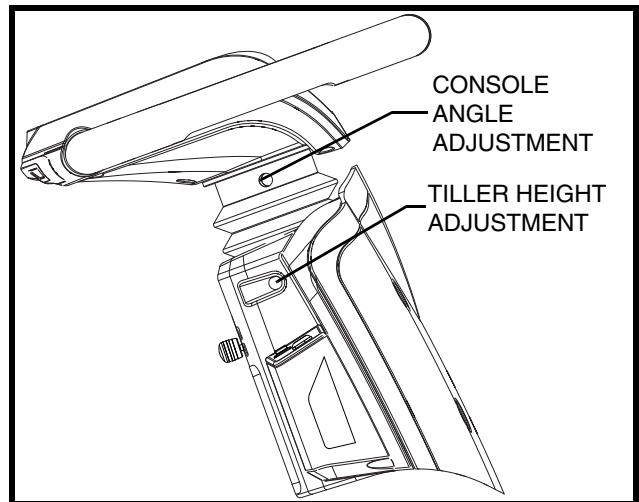

Figure 18. Tiller Height/Console Angle Adjustments
1. Insert a 5 mm hex key into the opening on the side of the tiller and loosen the bolt. **See figure 18.**
1. Insert a 6 mm hex key into the opening on the side of the tiller and loosen the bolt. **See figure 18.**